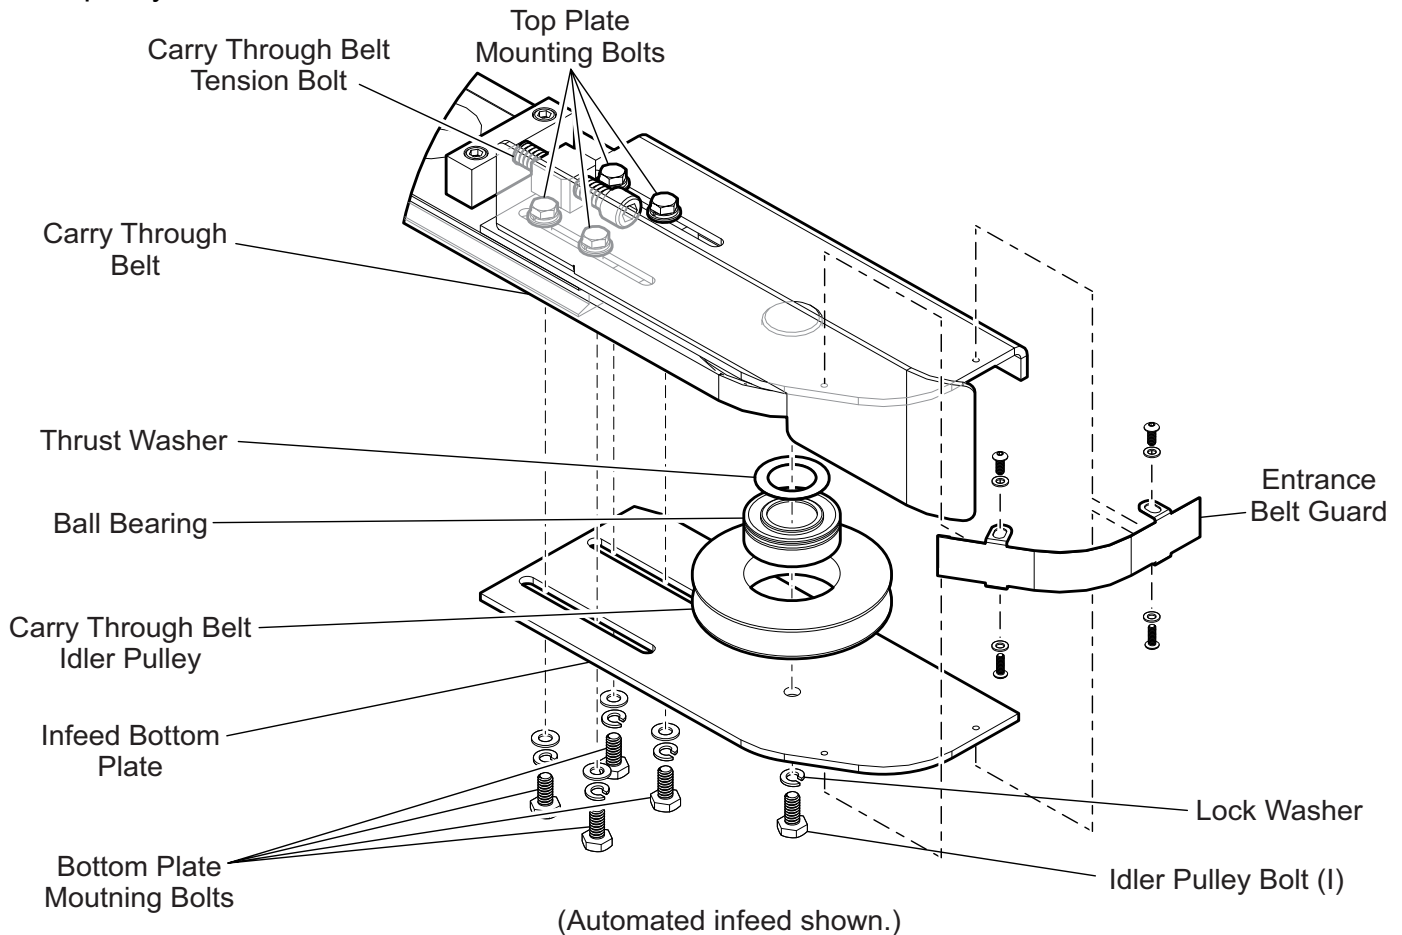

Figure 5-25: Infeed Idler Pulley Components
3. Remove the entrance belt guards from the leading edge of the infeed (see Figure 5-25: Infeed Idler Pulley Components).
7. Remove the idler pulley bolt (I) from the bottom of the infeeds. The infeed bottom plate can now be removed from the assembly.
13. Install the infeed bottom plate using the four bottom mounting bolts and the idler pulley bolt (I). The mounting bolts should hold the plate in position and allow the infeed assembly to move. The idler pulley bolt (I) can be tightened, but not so much to prevent the pulley from freely rotating.
3. Loosen, but do not remove, the four top and bottom mounting screws on the infeed (see Figure 5-25: Infeed Idler Pulley Components).
4. Turn the tension bolt until the tension in the carry through belt has been removed and the belt can be removed (see Figure 5-25: Infeed Idler Pulley Components).